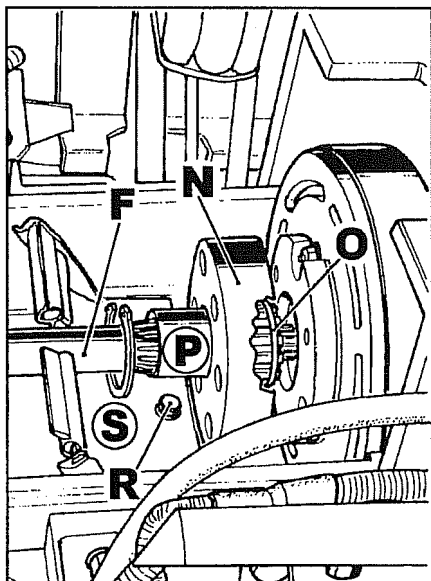

Fig. 10
7. Remove screw **R** fig. 10 and then remove from below metal piece **S** and the one underneath it.
Slide the flex coupling **N** fig. 10 towards the engine and then remove ring **O**.
Slide the keyed sleeve **P** fig. 10 towards the engine holding back the coupling which can then be removed from above.
- 16 Disconnect shaft **F** fig. 10 from the engine shaft and shift it to the side.